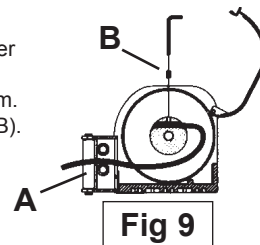

Fig 9
2. Insert the replacement cable through outlet guides (fig 9. A) under and around drum securing with grub screw (B).